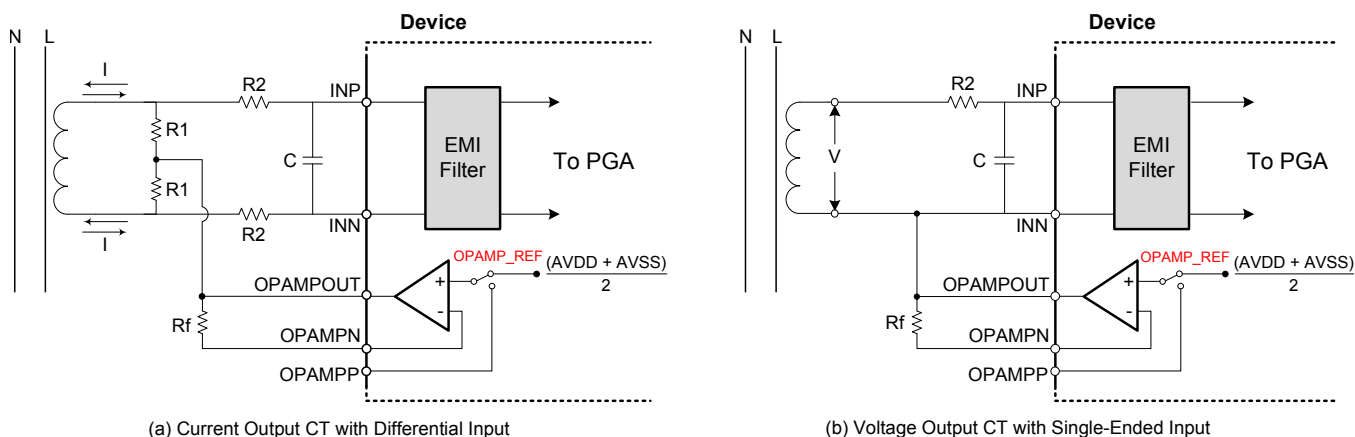

Figure 41. Simplified Current-Sensing Connections
Figure 41 shows a simplified diagram of typical configurations used for current sensing with a Rogowski coil, current transformer (CT), or an air coil that outputs a current or voltage. In the case of current-output transformers, the burden resistors (R1) are used for current-to-voltage conversion. The burden resistor output is connected to the ADS130E08 INP and INN inputs through an antialiasing RC filter for current sensing. In the case of voltage-output transformers (such as certain types of Rogowski coils), the transformer output terminals are directly connected to the ADS130E08 INP and INN inputs through an antialiasing RC filter for current sensing. The common-mode bias voltage $(AVDD + AVSS) / 2$, can be obtained from the ADS130E08 by either configuring the internal op amp in a unity-gain configuration using the R_F resistor and setting bit 3 of CONFIG3: Configuration Register 3, or it can be generated externally with a simple resistor divider network between the positive and negative supplies.